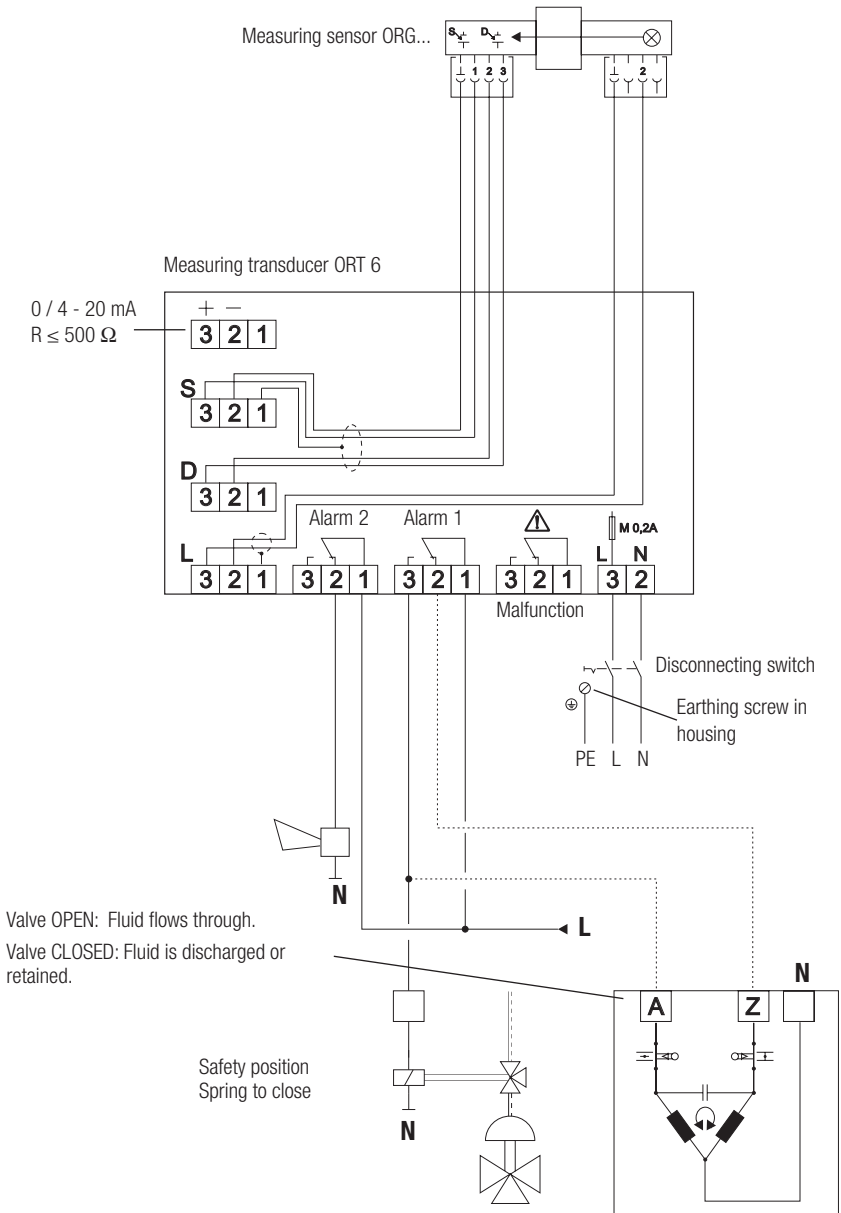

Fig. 13
6. Pull the cable through the cable gland **34** and connector upper part **29** and connect the terminals of the connection panel **30** as shown in the wiring diagram **Figs. 13 and 14**.
However, the malfunction can be included in the control of the three-way switch-over valve as shown in the wiring diagram **Fig. 13**.
Valves with a single-phase AC motor and max. power rating of 50 VA (see wiring diagram **Fig.13** or **Fig. 14**) can also be connected directly. Install a reversing contact in between in the case of three-phase actuators.